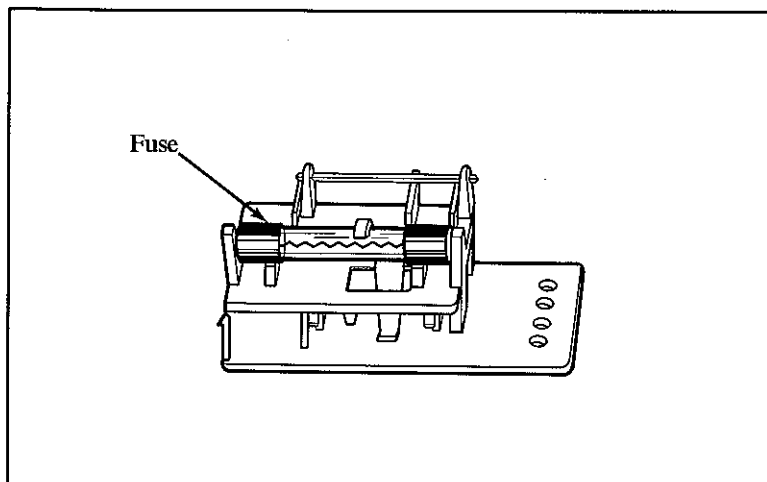

Figure 12-2.
4. Note the orientation of the fuse(s) in the holder. Remove the fuse, then replace with the new fuse, oriented in the same position. See Figure 12-2. On 220/240V instruments, both of the fuses should be replaced, even though only one may look faulty.